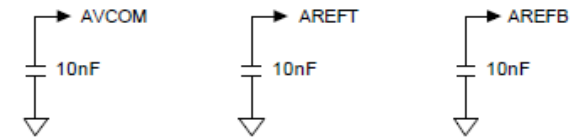

Fig 2
(2) CPU pin 83,84,85 must have external compensation Caps 10nF as in Fig 2;
(3) Problem 1 of the ADC: ADCCON's ADC state flag off by 1 right after the conversion starts and right before the conversion ends;